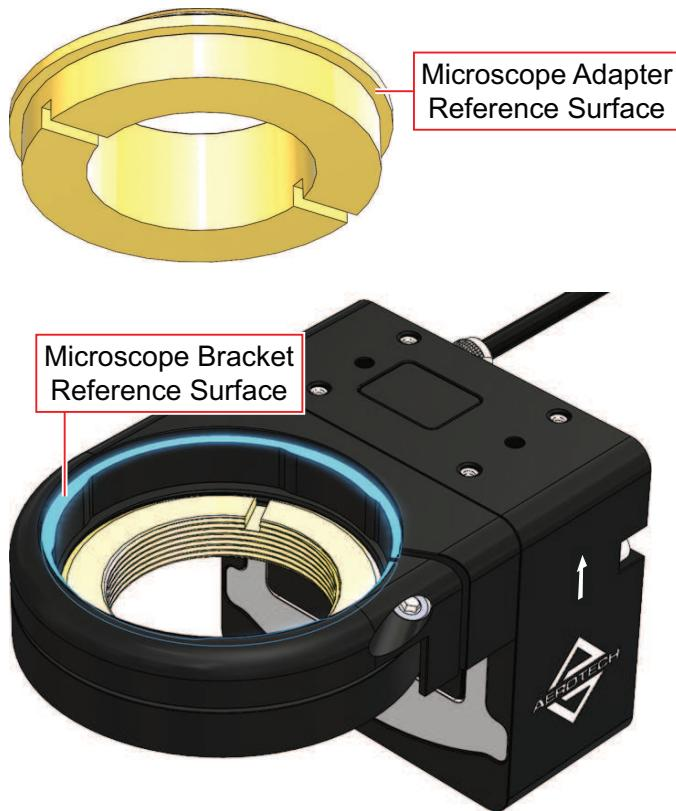

Figure 2-5: Adapter and Bracket Reference Surfaces
Step 3: Slide the microscope adapter into the aperture of the microscope bracket and reference the microscope bracket reference surface to the microscope adapter reference surface (refer to Figure 2-5).